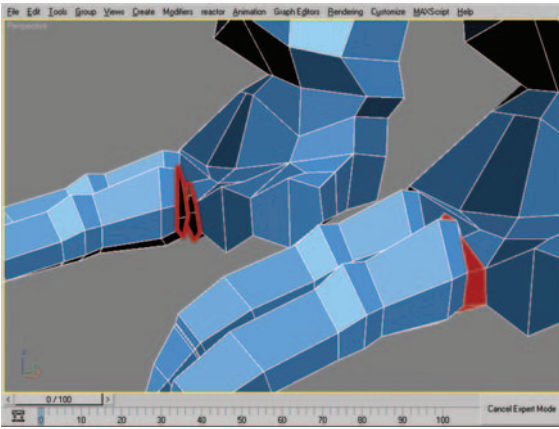

Figure 9.74 Border selection and new row of polygons after performing a bridge.
36. At the Border subobject level, select the two borders highlighted in Figure 9.74 (left) and use Bridge to create new polygons that span the opening (Figure 9.74, right). This results in a new unwanted edge loop.